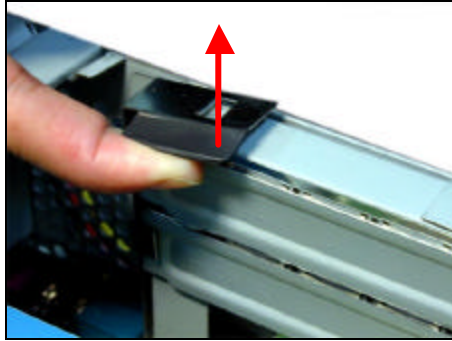

Figure 3.8.2
- iii. Lift the black tab on the riser card to open the expansion card slot covers, as shown in [Figure 3.8.2] below.